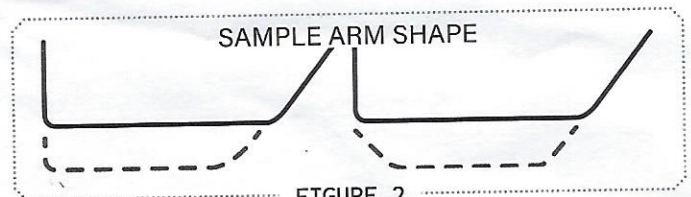

FIGURE 2
7. Raise and lower arm to make sure the ice bin or auger bucket does not interfere with the motion of the arm. *The shut off arm may be reshaped if necessary, as illustrated in Figure 2, or remove shut off arm from old ice maker and install on the new ice maker.*